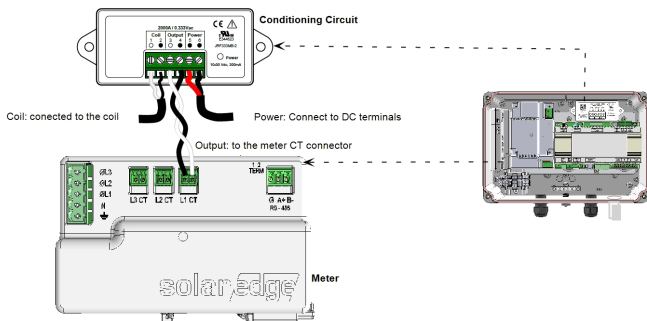
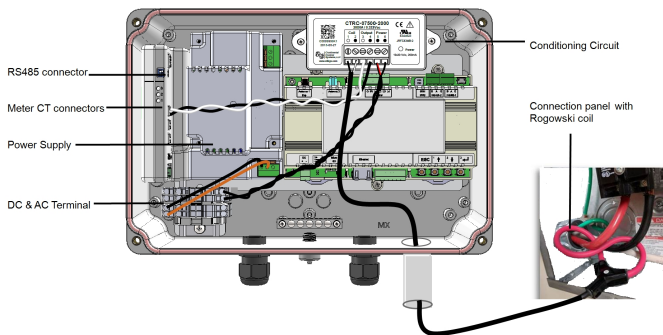

Figure 5: Conditioning circuit wiring
Figure 6: Meter with a single flexibel coil
6. Release the two standoff screws at the top of the meter (see *Figure 6*).
10. Use a flat screwdriver to connect the wires from the conditioning circuit(s) as follows (see *Figure 5* and *Figure 6*):
- c. Swap the wires of the **Output** black / white cable at the Conditioning Circuit (see *Figure 5*).